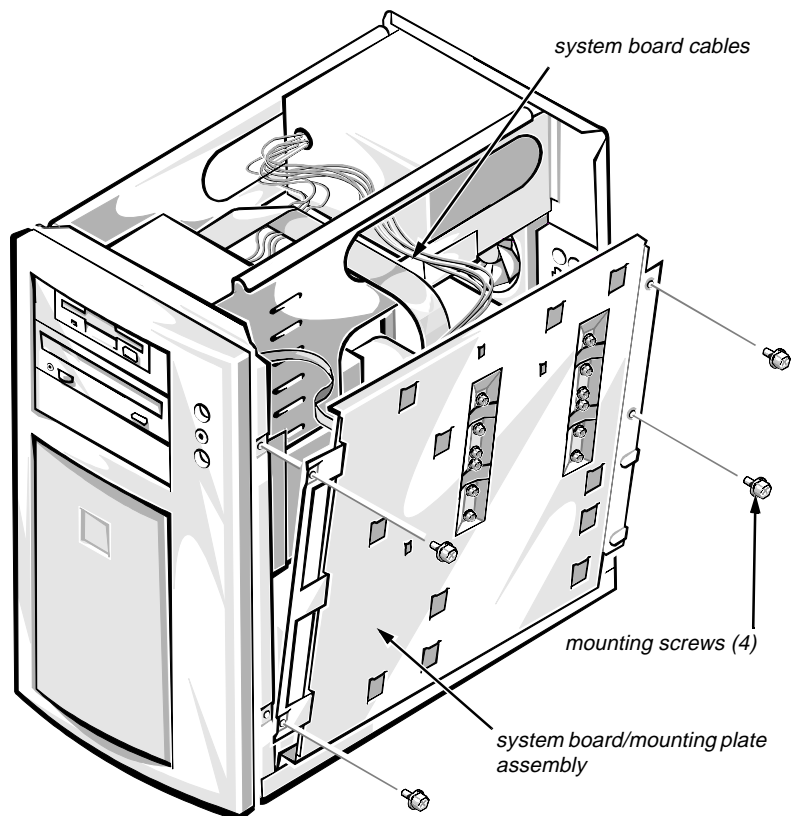

Figure 4-17. System Board Assembly Removal
- 4. Remove the four screws from the system board/mounting plate assembly (see Figure 4-17).**